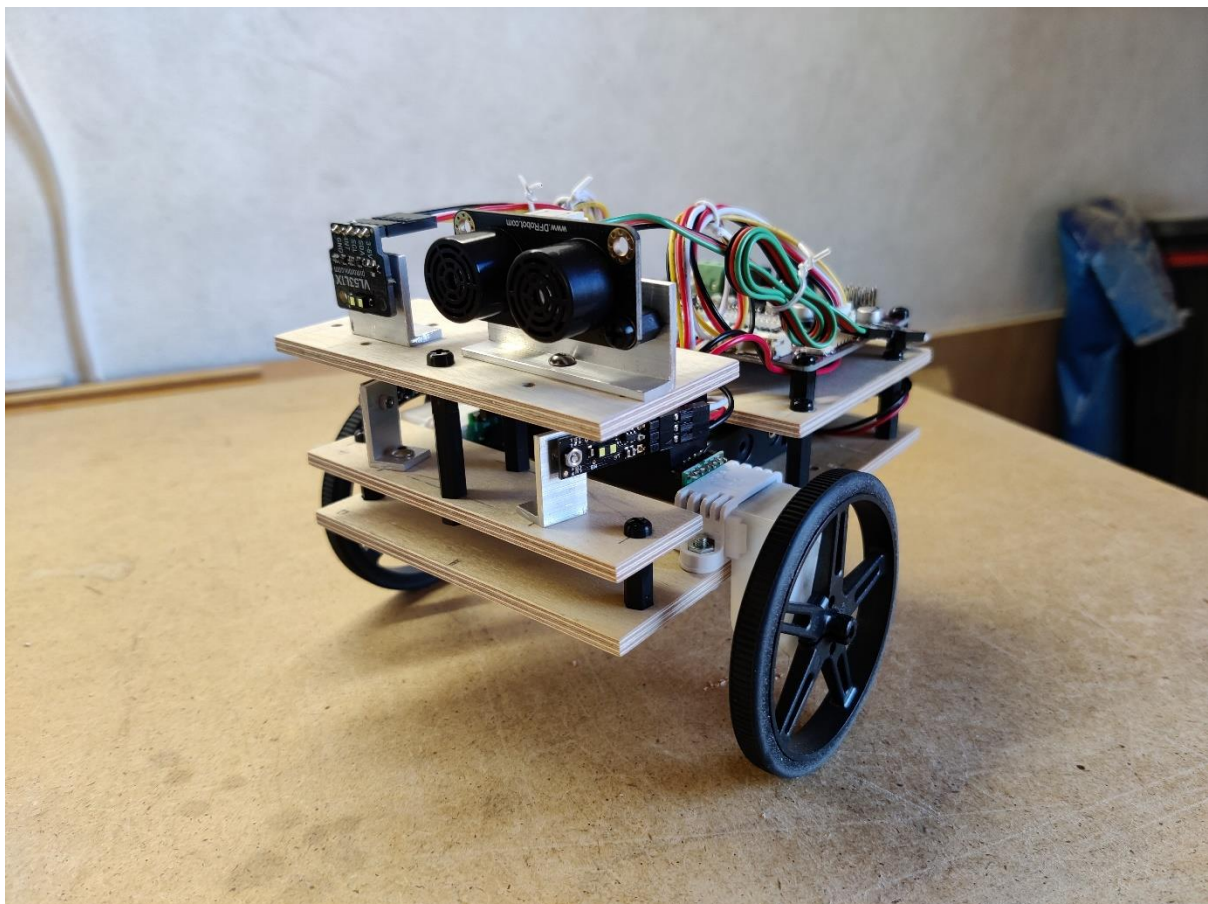

Figure 1 Pico robot.
Figure 1 shows a photo of Pico Robot. Note the InfraRed (IR) and UltraSonic (US) sensor on top and the small IR distance sensors below.
The Field of View (FoV) was increased by placing the US and ToF sensor next to each other (see figure 1). In experiments, see appendix C, the FoV was determined to be around 20 and 30 degrees for the ToF and US sensor respectively. Note that these FoVs translate @ 30 cm into a $8+5+5 = 18$ cm wide obstacle detection range, while the robot width including wheels is around 15 cm. Furthermore, the combination of two different measuring principles offers the advantage that the robot can detect dark and soft obstacles.
Appendix A gives the Micropython listing of Rev E. This included a single US sensor placed on a 270 degrees servo. Appendix B gives the listing of Rev J, this is the latest version with both an IR and US sensor placed at the front (see figure 1).